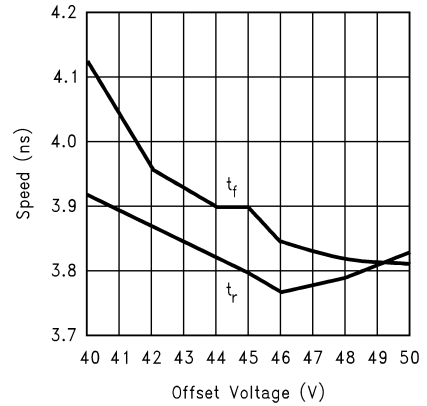

FIGURE 7. Speed vs Offset
*Figure 7* shows the variation in rise and fall times when the output offset of the device is varied from 40 to 50 VDC. The rise time shows a maximum variation relative to the center data point (45 VDC) of 4%. The fall time shows a variation of less than 6% relative to the center data point.